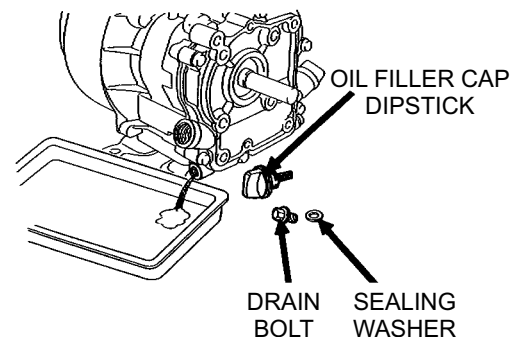

Figure 25. Draining Engine Oil
- Drain the engine oil when the oil is warm as shown in (Figure 25).